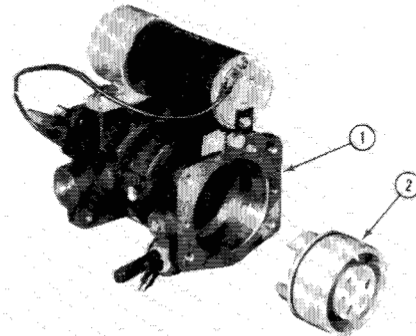

Figure 55
Tap power booster assembly (1, Figure 55) against a block of wood to remove piston (2).